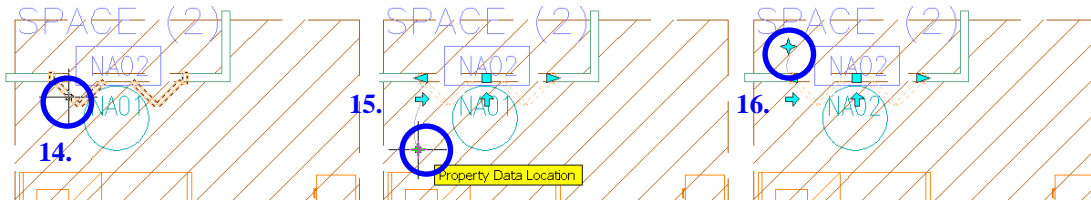

Figure 8
16. Drag the grip into the closet to associate the door to the closet. *Figure 8*